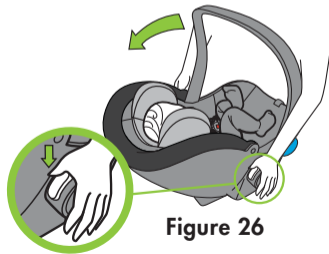

Figure 26
- Press both Carry Handle Adjustment Buttons and rotate Handle until it locks in the desired position as shown in **Figure 26**.